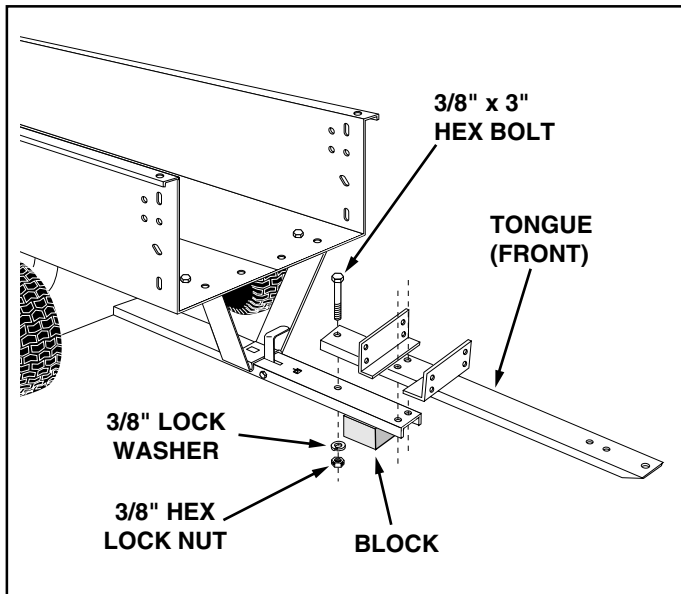

FIGURE 8
14. Assemble the front tongue on top of the rear tongue using three 3/8" x 3" hex bolts, 3/8" lock washers and 3/8" hex lock nuts. See figure 8.